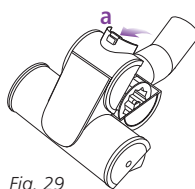

Fig. 29
- 1 Slide the locking latch **(a)** forward and gently tilt brush housing upward to open. **(Fig. 29)**